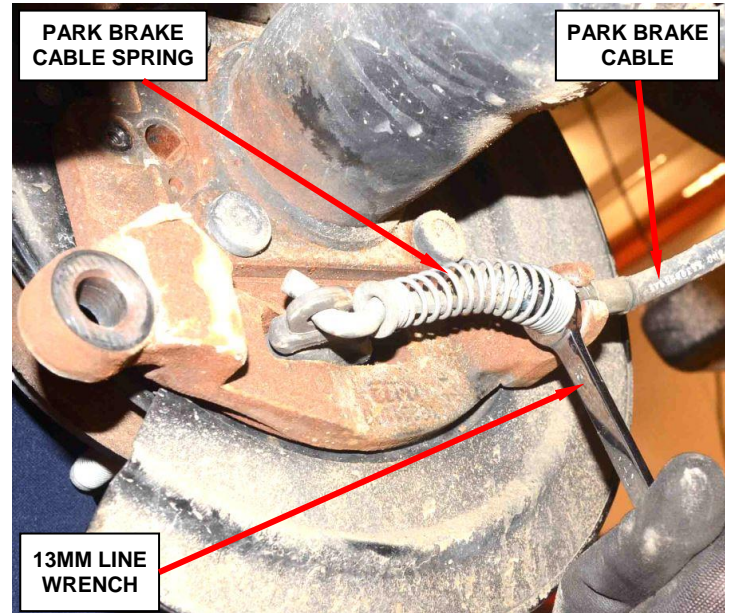

Figure 15 – Park Brake Cable
- b. Compress the cable tabs on each cable end fitting at the brake cable support plate using a 13 mm line wrench (Figure 15).